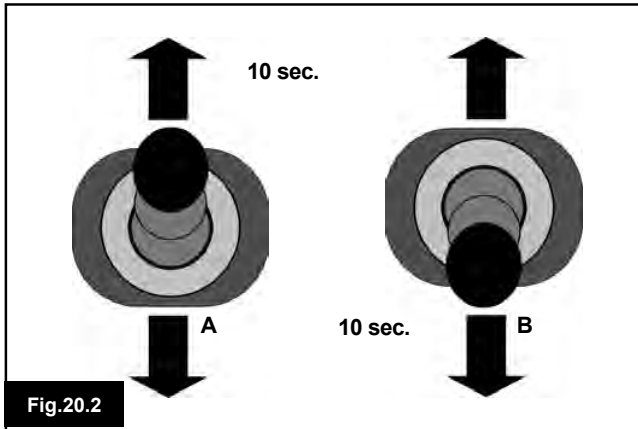

Fig.20.2
2. Operate your Input Device in the forward direction and hold until it beeps, approximately 10 seconds. Then release (Fig 20.2 "A" or 18.5).